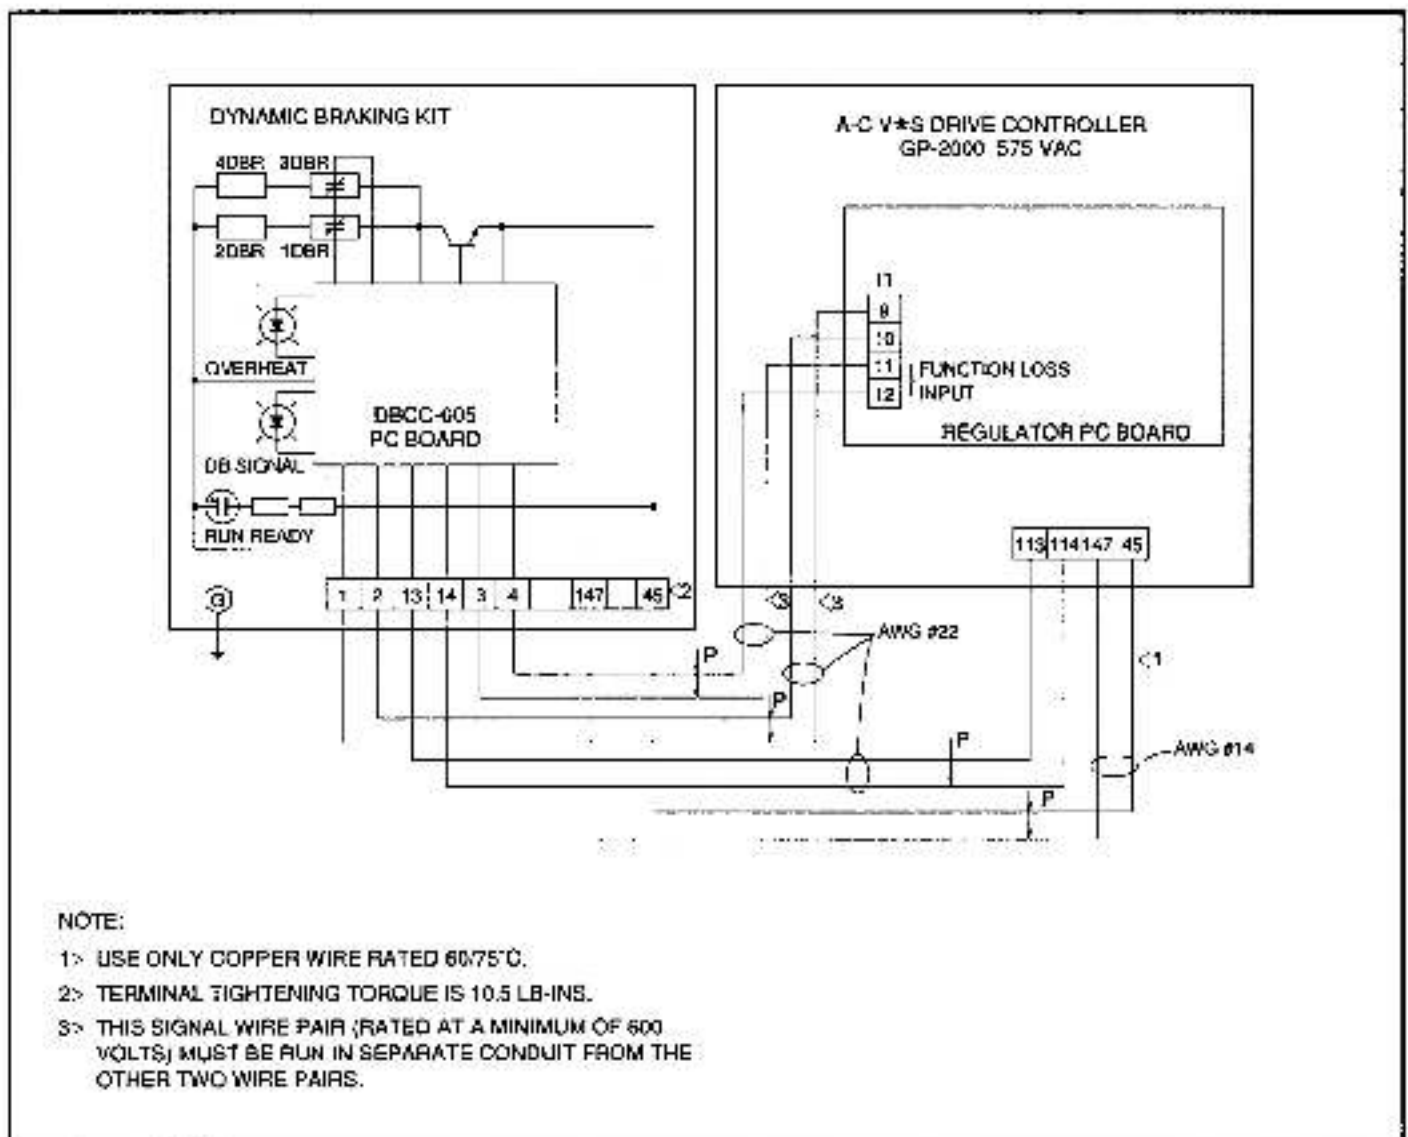

Figure 2. Connection Diagram.
6. Wire between the controller and the Dynamic Braking Kit in accordance with Figure 2 and all codes. Use wire that is rated at a minimum of at least 600 volts. The two wire pairs for a DB signal and a function loss signal must be run in separate conduit from the other two wire pairs for power supply.